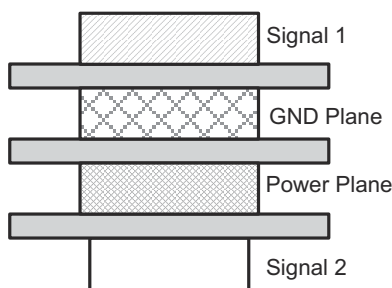

Figure 8-3. Example Layout
- When working with high frequencies, a printed circuit board with at least four layers is recommended; two signal layers separated by a ground and power layer as shown in Figure 8-3.
Figure 8-3 shows an example of a PCB layout with the SN74CBTLV3125. Some key considerations are: